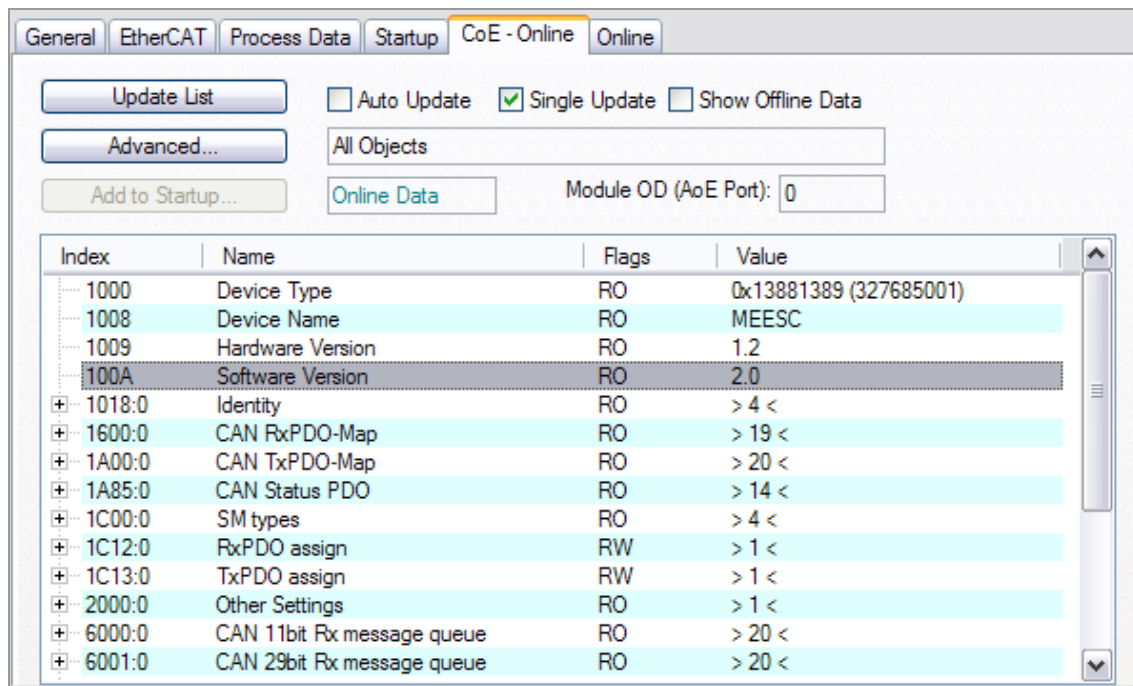

Figure 34: CAN-EtherCAT CoE dict., Software/Firmware version selected
8. Verify the current version in object 100A_h, Fig. 34